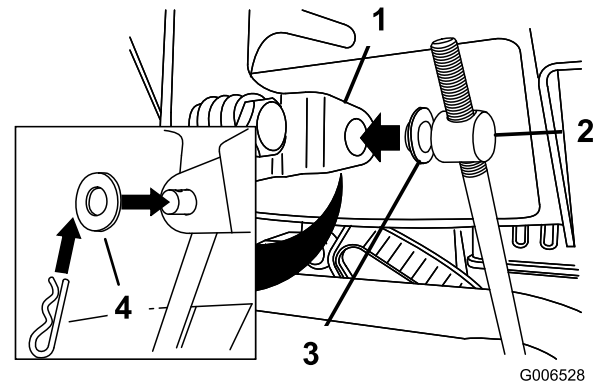

Figure 11
3. Remove the hairpin cotter and the outer washer from the trunnion on the upper end of the speed control rod (Figure 11).
Note: To make installation easier, leave the flat washer on the trunnion (Figure 11).
- Lift up on the speed control rod and insert the trunnion into the hole in the speed selector lever (Figure 11).
- B. Disconnect the trunnion from the speed selector lever (Figure 11).
- C. Turn the trunnion downward (clockwise) on the speed control rod (Figure 11).
- D. Connect the trunnion to the speed selector lever (Figure 11).
- C. Turn the trunnion upward (counterclockwise) on the speed control rod (Figure 11).